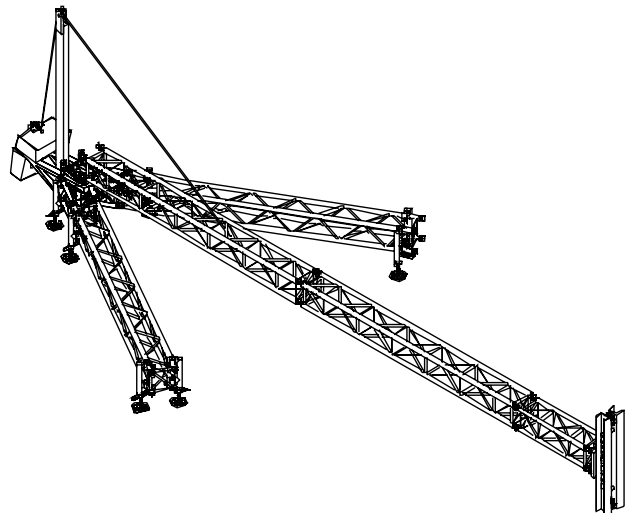

figure 10
**8** Connect the chainhoist to the corner section. Place a roundsling around the mast about 2m from the hinge parts and attach the hook of the hoist chain to the roundsling. See figure 10.